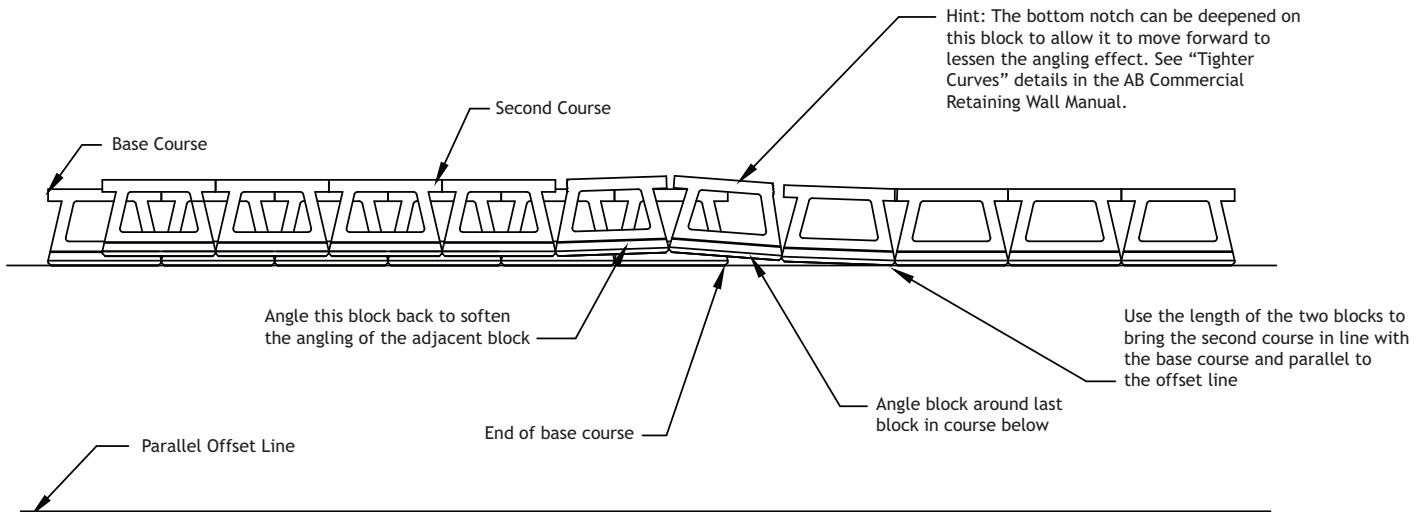

Figure 7: Using a Kink to Build a Straight Wall – Building the Second Course
- Construct the second course as shown in the AB Commercial Retaining Wall Manual. When your second course reaches the end of the buried base course, add a kink in the wall as shown in Figure 7 to bring the wall back to the working line and parallel with your existing feature. Continue constructing the second course on top of the compacted base.